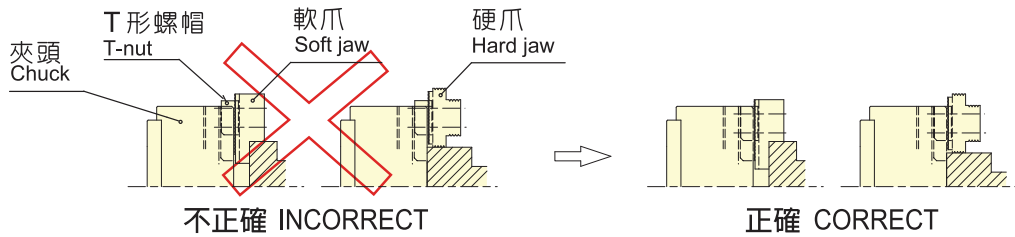

Fig.17
- 設定爪夾位置時必須注意T形螺帽不可以突出主爪。（Fig.17右）
- T形螺帽突出底爪，不正確使用方法將造成底爪 T形螺帽的損壞及精度上的不準。（Fig.17左）
- The T Nut must not be protrude from the master jaw. (Refer to Fig.17 right)
- The use on condition incorrect will cause damage to the master jaw and " T " nut as well as inaccuracy. (Refer to Fig.17 left)